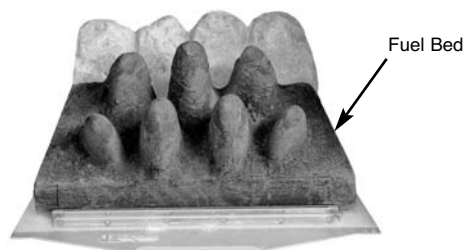

Fig. 29
2. Place the main fuel bed on to the middle section of the metal burner tray. It is important that the front edge of the fuel bed is located behind the burner strip (Fig. 29).